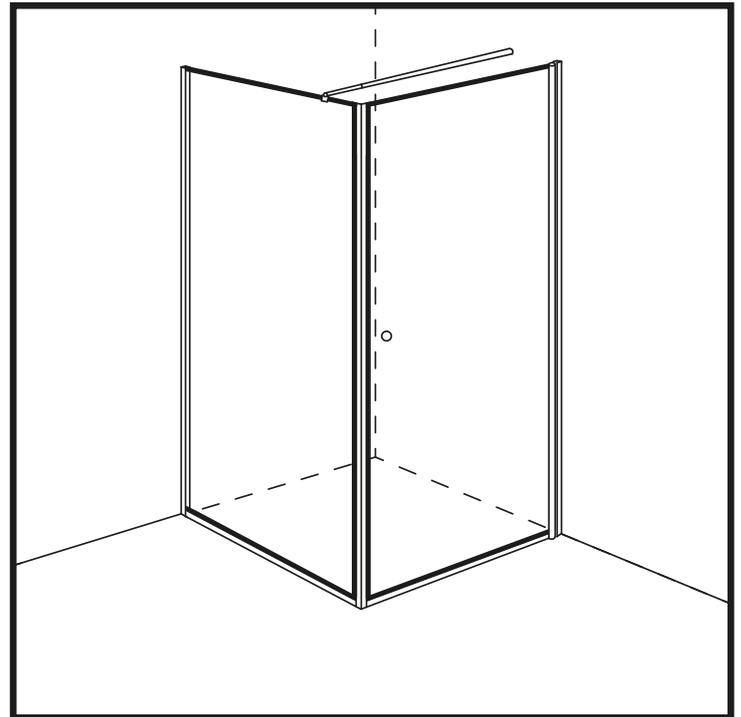

Figure 19
47. Remove the blocks from under the glass. (Figure 19)